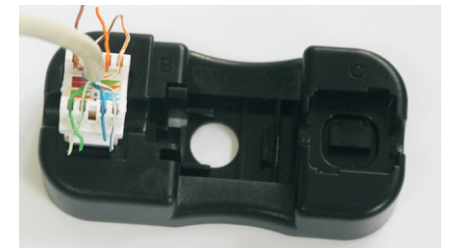

Figure 7- Impact tool being used on cable
3. Punch the wires with a 110 or Krone impact tool and cut off the surplus wires.(Figure 7)